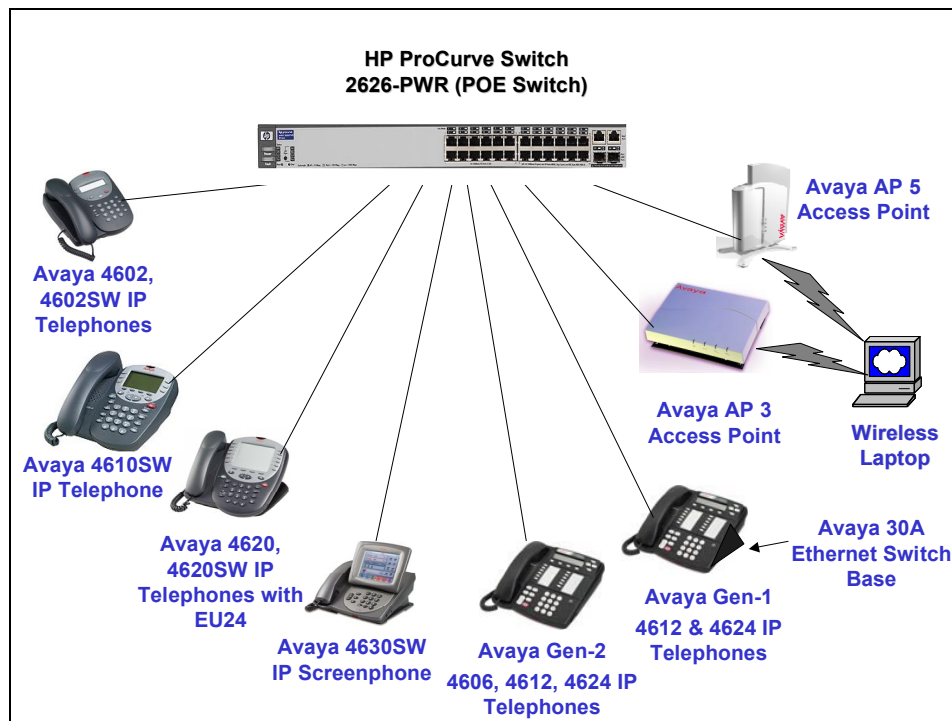

Figure 1: Avaya 4600 Series IP Telephone and Wireless LAN Access Point Configurations with the HP ProCurve Switch 2626-PWR
The sample configuration provided in **Figure 1** depicts all of the Avaya products that were provided inline power by the HP ProCurve Switch 2626-PWR. The following Avaya products are directly connected to the switch:
3.	<ul style="list-style-type: none"> • Connect several Avaya IP Telephones as shown in Figure 1 to Ethernet ports on the switch. In this example, Avaya 4620, 4610SW, and 4602SW IP telephones were connected to ports 1-3 respectively. • Verify that the telephones are powered and booting by inspecting their displays. • Check inline power status of the switch ports. In the example below, all three IP telephones were in the idle state (no active calls). <pre> HP ProCurve 2626-PWR#show power-management brief Status and Counters - Port Power Status Port Power Configured Detection Power Enable Priority Type Status Class -----+----- 1 Yes Critical Delivering 3 2 Yes Critical Delivering 2 3 Yes Critical Delivering 1 4 Yes Low Searching 0 -----+----- HP ProCurve 2626-PWR#show power-management 1-3 Status and Counters - Port Power Status for port 1 Power Enable : Yes Priority : Critical Configured Type : Detection Status : Delivering Power Class : 3 Over Current Cnt : 0 MPS Absent Cnt : 1 Power Denied Cnt : 0 Short Cnt : 0 Voltage : 500 dV Current : 140 mA Power : 7000 mW Status and Counters - Port Power Status for port 2 Power Enable : Yes Priority : Critical Configured Type : Detection Status : Delivering Power Class : 2 Over Current Cnt : 0 MPS Absent Cnt : 1 Power Denied Cnt : 0 Short Cnt : 0 Voltage : 500 dV Current : 67 mA Power : 3350 mW Status and Counters - Port Power Status for port 3 Power Enable : Yes Priority : Critical Configured Type : Detection Status : Delivering Power Class : 1 Over Current Cnt : 0 MPS Absent Cnt : 0 Power Denied Cnt : 0 Short Cnt : 0 Voltage : 500 dV Current : 64 mA Power : 3200 mW </pre>